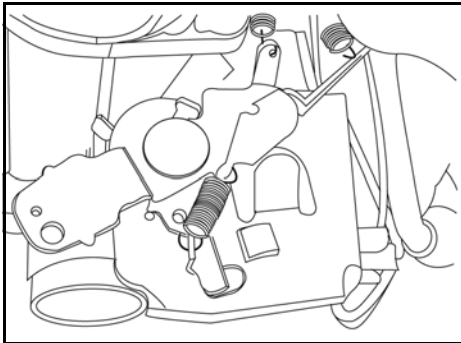

Figure 33
2. Place throttle in SLOW position. Hole in lever will line up with hole in governor control bracket (Figure 33). Insert a 1/8" rod through holes to lock lever in this position.